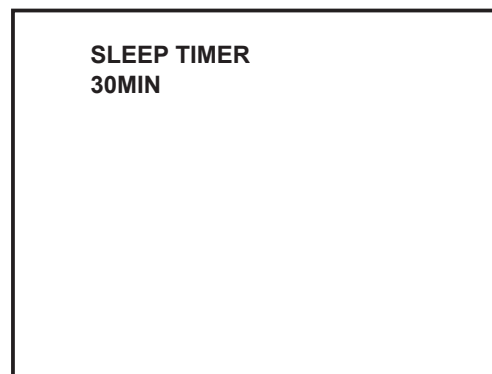
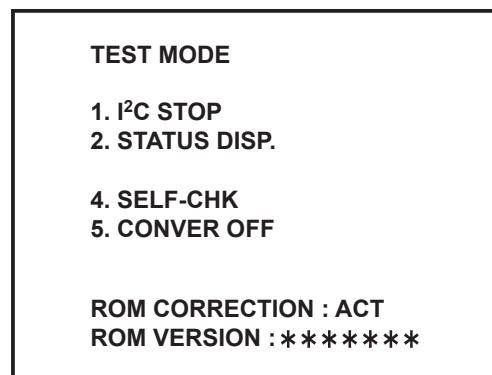

Fig.1
Fig.2
<div></div> <p>Fig.1</p> <div></div> <p>Fig.2</p>
- (1) Set the <sleep timer 30min> with [SLEEP TIMER] key. (Fig.1)
- (2) During the <sleep timer 30min> display, press [DISPLAY] key and [VIDEO STATUS] key at the same time.
- (3) Then <TEST MODE> screen is displayed. (Fig.2)